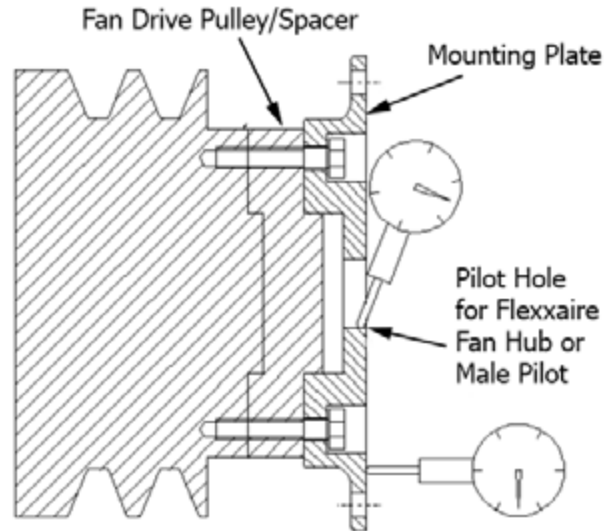

Figure 4
1. Install the supplied mounting adapter using bolts from the original fan. If the bolt length needs to be changed, use an equivalent or better grade of bolt. Follow the original equipment manufacturer's torque and thread locking specifications when installing the mounting adapter to the fan drive. Refer to Figure 4.
2. Set up the dial gauge to measure axial deviation of the mounting adapter on the fan mounting surface. Deviation should not exceed 0.13mm (0.005"). Refer to Figure 4.
3. Set up the dial gauge to measure radial deviation of the mounting adapter on the pilot hole surface or male pilot surface. Deviation should not exceed 0.13mm (0.005"). Refer to Figure 4.